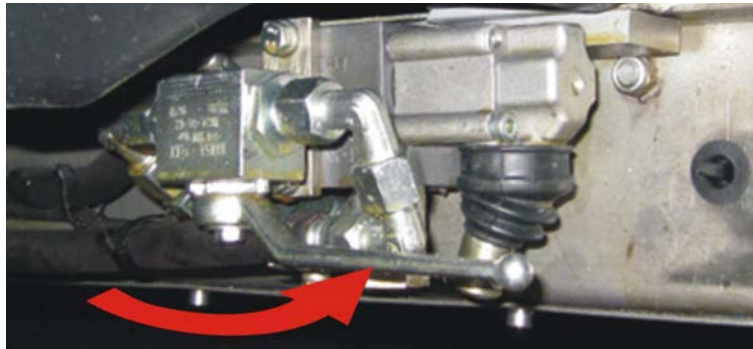

Figure 34: Closing the Ball-Cock
- ⇒ Close the ball-cock as soon as the platform has lowered to the desired height (see Figure 34).